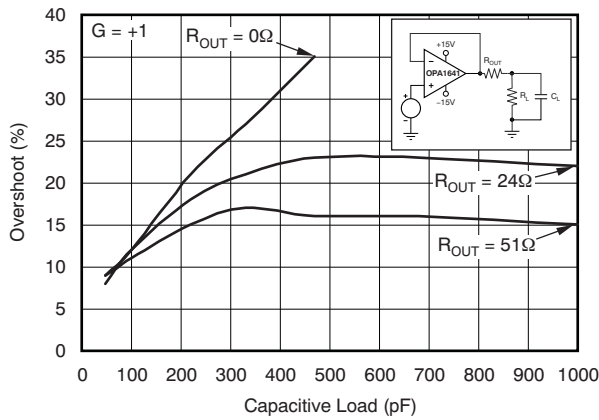
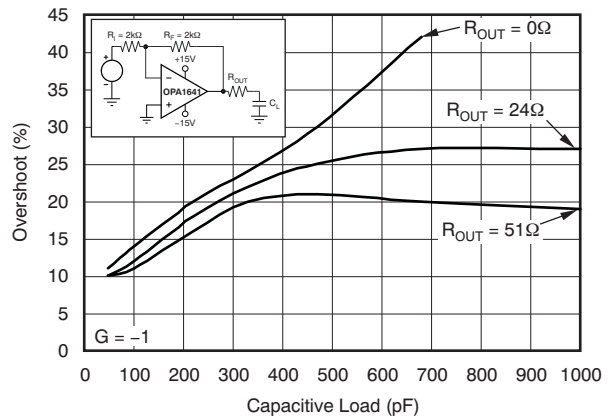

Figure 21.
Figure 22.
(3) See Figure 21 and Figure 22.
Figure 21 and Figure 22 illustrate graphs of *Small-Signal Overshoot vs Capacitive Load* for several values of R_{OUT} . Also, refer to Applications Bulletin AB-028 (literature number SBOA015, available for download from the TI web site) for details of analysis techniques and application circuits.